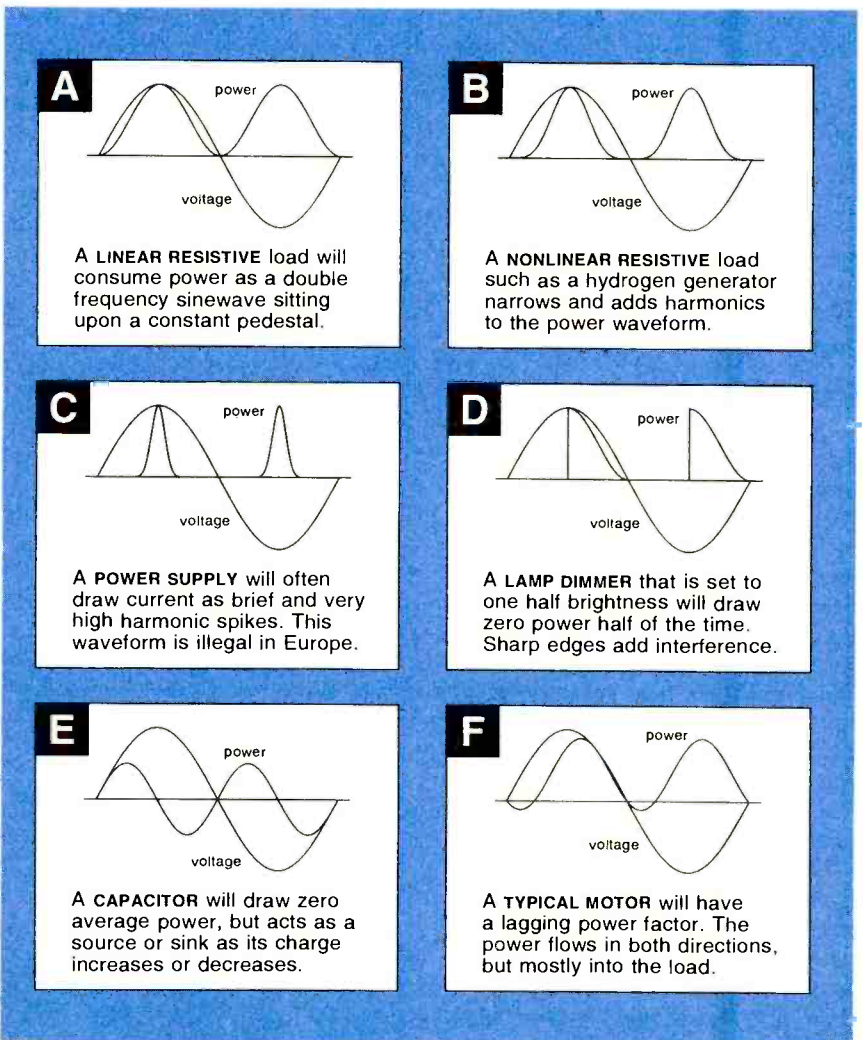

FIG. 1—DUE TO THEIR UNUSUAL SHAPES, AC power waveforms have long been very difficult to accurately display and measure.
Let's use Fig. 1 to see some of the problems that power waveforms can cause for us. In Fig. 1A we have an AC source driving a linear resistive load—a hot water heater, maybe. Input voltage (shown) and current (not shown) will both be sinewaves, and they will both be in-phase with each other. Your power waveform should always be positive and should vary at twice the frequency of the input voltage.
I have purposely left the current waveforms out of Fig. 1 to keep things simple. I invite you to sketch all these in as an "exercise for the serious student" as there's lots to be learned here.
**Digital storage scopes**—The latest of DSOs and many computer data-acquisition plug-ins now permit you to multiply input values together and display the results, which lets you directly view those power waveforms of Fig. 1. Doing that was once horrendously difficult to do.